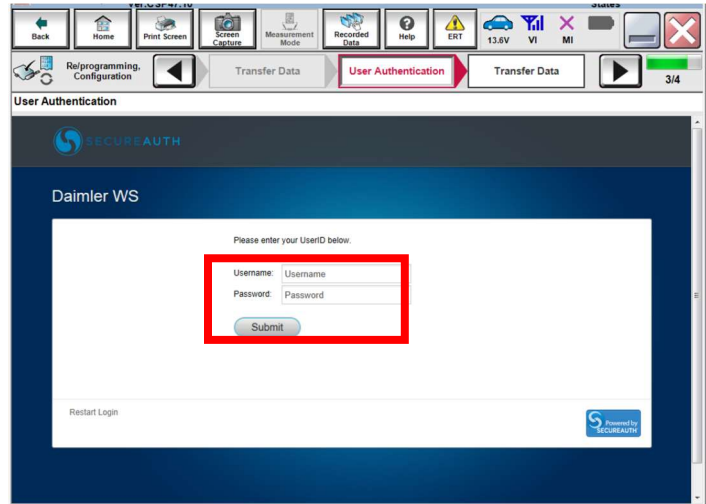

Figure 29
32. Enter your login information and select **Submit**. (Figure 29)